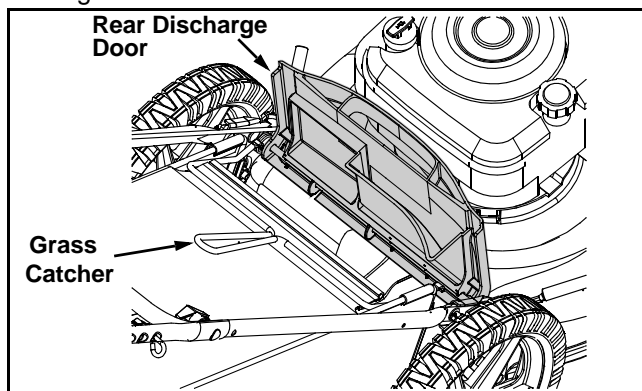

Figure 8
1. Lift the rear discharge door and place the grass catcher on the pivot rod. Let go of the discharge door so that it rests on the grass catcher. See Figure 8.